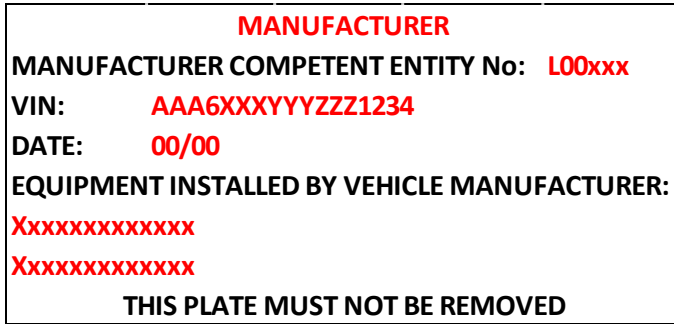

Figure 1
- e) Will have, as a minimum, the information detailed in Appendix 1, Figure 1.
- g) Printed information on the Plate are detailed in Appendix 1, Figure 1, should be printed, embossed, stamped or engraved in characters at least 2.5mm high, clearly legible and where possible in CAPITAL LETTERS. Non specified information, such as a Plate/Label Part Number and OEM Additional Information, etc, is at the discretion of the OEM.
- i) Only one (1) OEM Plate should ever be affixed to a new vehicle. Issuing of a replacement Manufacturers Plate, in the case that the original plate is damaged or becomes illegible, is at the discretion of the OEM.
“Variable” information in Figure 1 and the Examples below, is shown in **RED** for the purpose of clarity in this document. All CHARACTERS on the Manufacturers Plate should be the same colour.